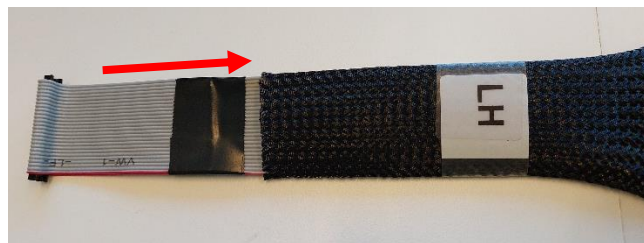

Figure 38. Slide the braided sleeve.
- 4) Slide the braided sleeve backwards (See figure 38).